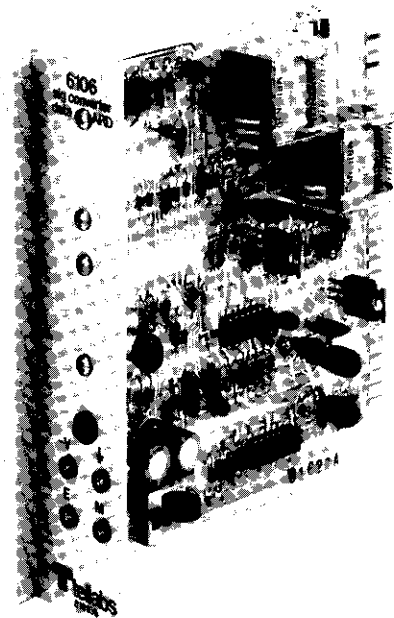

figure 1. 6106 Signaling Converter
1.01 The 6106 Signaling Converter Data ARD (ringdown) module (figure 1) provides conversion between E and M signaling derived from a companion SF or DX Signaling module and a special form of automatic ringdown signaling associated primarily with data ringdown terminations. The 6106 is commonly used in combination with a Tellabs 6101 SF Transceiver module to provide a two-module sf ringdown signaling system compatible with established criteria for F-type inband signaling. A Tellabs DX Signaling module (6001 or 6002) may also be paired with the 6106 to provide a ringdown arrangement with dx signaling over the facility. In addition, the 6106 may directly interface a carrier-derived E and M signaling facility.